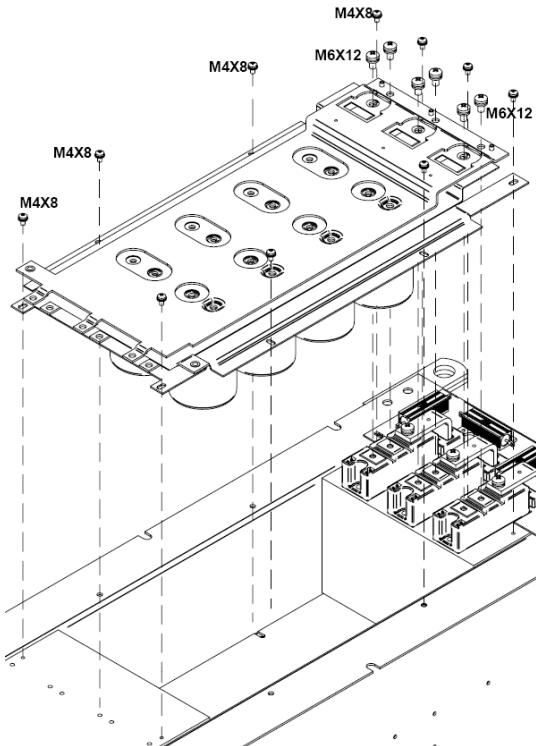

Figure 3.15. Disassembly of the DC Bus (c)
- 8) Place the snubbers capacitors on the back part of DC Bus (figure 3.15) by screwing the Phillips screws **M6x12 DIN-7895H** .